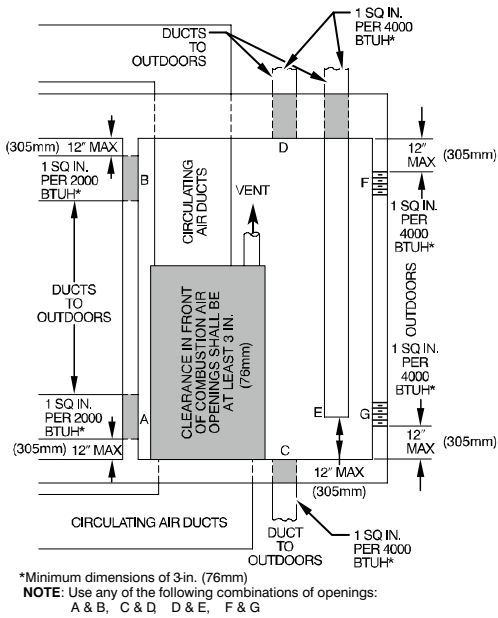

Fig. 6 – Air for Combustion, Ventilation, and Dilution for Outdoors L12F012
2. Fig. 6 illustrates how to provide TWO OUTDOOR OPENINGS, one inlet and one outlet combustion and ventilation air opening, to the outdoors.
- b. Size openings and ducts per Fig. 6 and Table 4.
- c. TWO HORIZONTAL DUCTS require 1 sq. in. (645 sq. mm) of free area per 2,000 BTUh (1,100 mm²/kW) of combined input for all gas appliances in the space per Fig. 6 and Table 4.
- d. TWO OPENINGS OR VERTICAL DUCTS require 1 sq. in. (645 sq. mm) of free area per 4,000 BTUh (550 mm²/kW) for combined input of all gas appliances in the space per Fig. 6 and Table 4.
- a. 1 sq. in. (645 sq. mm) of free area per 3,000 BTU/h (734 mm²/kW) for combined input of all gas appliances in the space per Fig. 6 and Table 4.